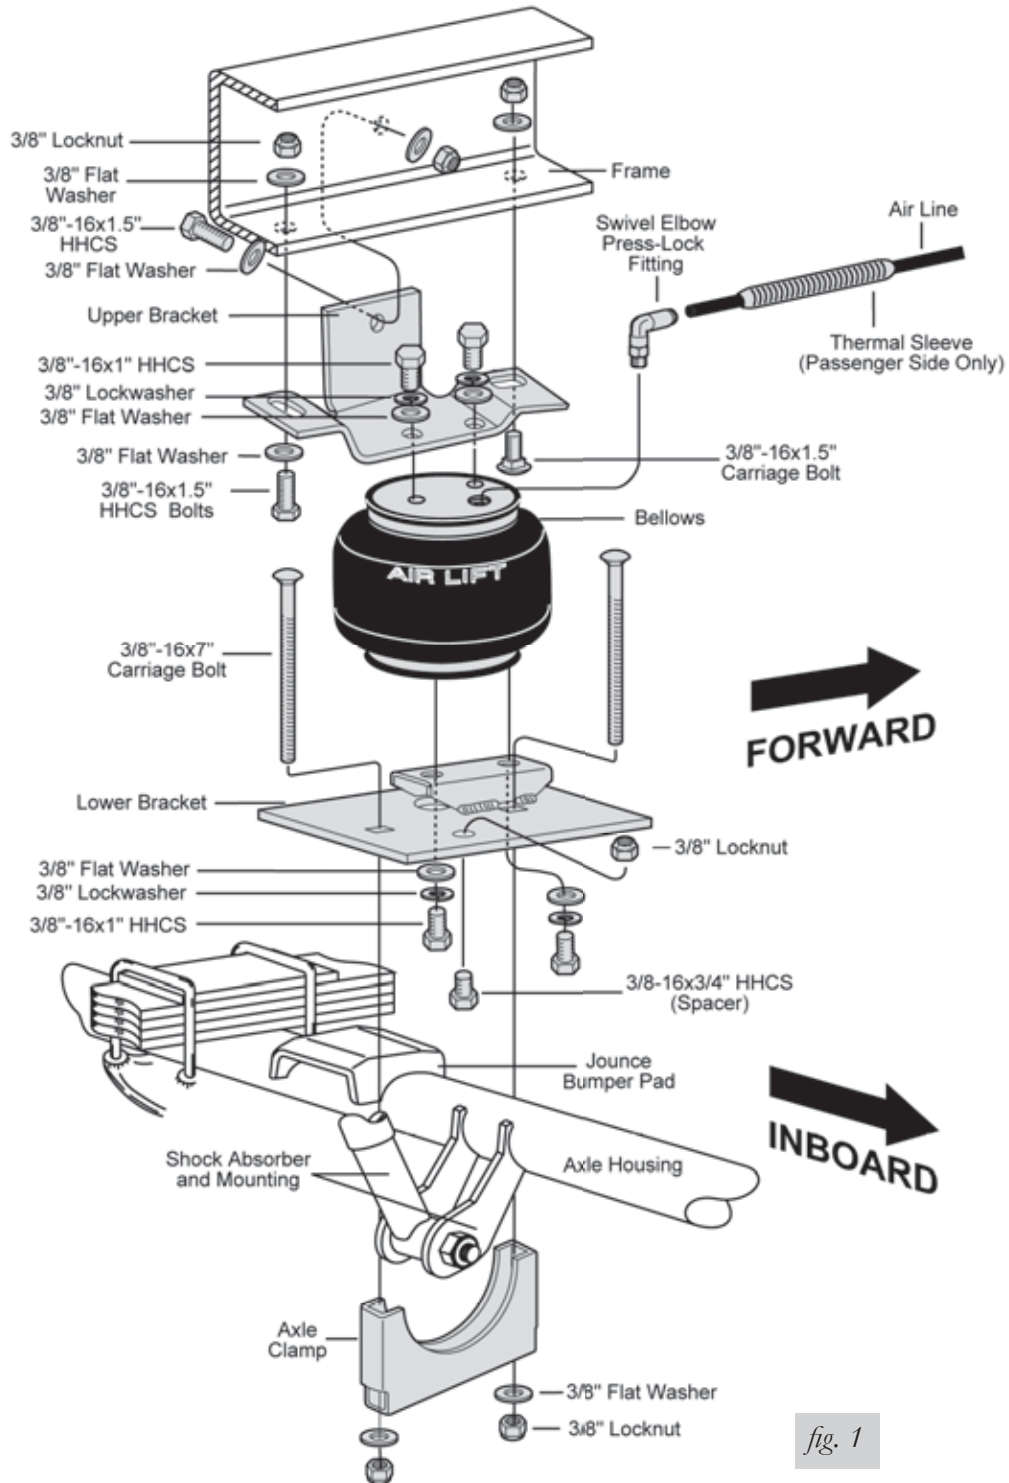
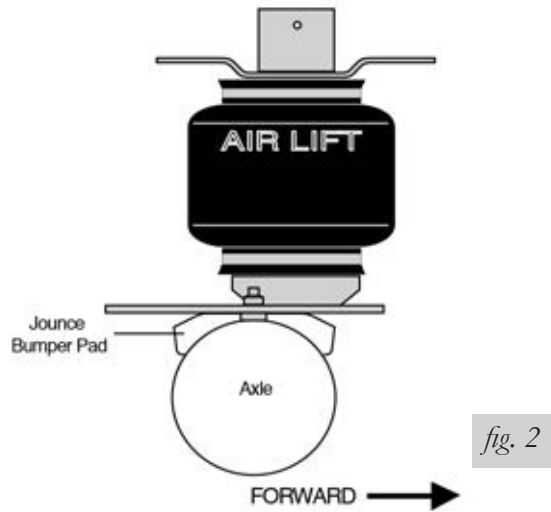

fig. 1
fig. 2
If the vehicle is equipped with a factory sway bar, it will be necessary to set the lower axle clamp in place before lowering axle. (Figure 1)
5. A spacer is required so that the lower bracket sits level on the axle housing/jounce bumper pad. Insert 3/8-16x3/4” HHCS bolt through lower bracket and secure with 3/8” lock nut (Figure 1). The spacer should sit inboard of the jounce bumper pad (Figure 2).
6. Put the 3/8-16x7” carriage bolts into the rectangle holes in the lower bracket. Attach the bellows onto the upper and lower brackets using the round holes with the 3/8”-16x1” mounting bolts, flat washers, and lock washers. There are right and left hand units (marked). Tighten to 15-20 ft-lbs. (Figure 1).
7. Place the assembly on the axle housing, guide the carriage bolts through the axle clamp and align so that the bellows follows the natural arc of the suspension travel. Attach lower bracket to axle housing loosely using axle clamp, flat washers and locknuts (Figure 1 & 4).
9. With the upper bracket in this position, and using the bracket as a template, mark and drill the 3/8" hole on the OUTBOARD side of the frame rail through the upper bracket. Install the 3/8-16x1.5" HHCS bolt, flat washer and locknut and tighten to 20 ft.lbs. Tighten the two bolts previously installed (Figure 1).
TO PREVENT AIR LINE FROM MELTING, KEEP IT AT LEAST TWELVE INCHES FROM EXHAUST SYSTEM. USE THERMAL SLEEVE ON EXHAUST SIDE (FIGURE 1).